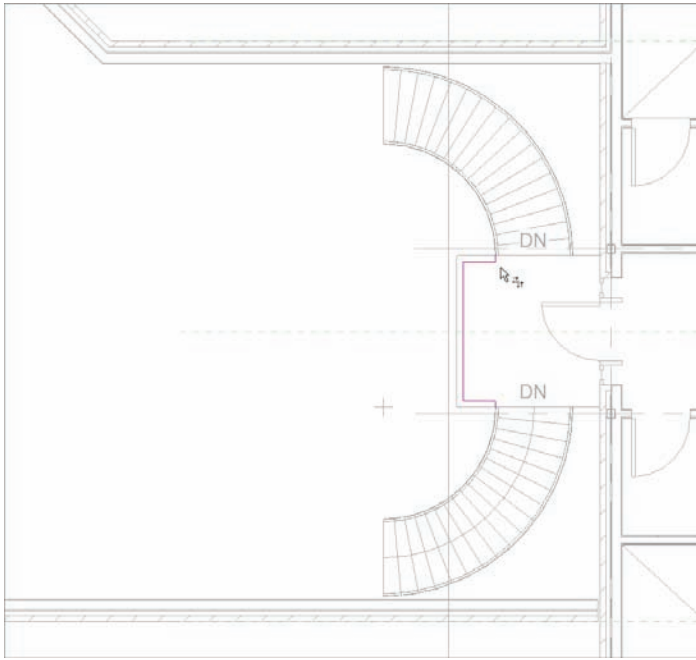

FIGURE 10.53 Connecting the landing railing to the stair railing
6. After the offsets are complete, click the Line icon on the Draw panel, as shown in Figure 10.53.
8. Draw the lines extending from the stair railing to the landing railing, as shown in Figure 10.53.
9. Trim the corners so your railings look like Figure 10.53.